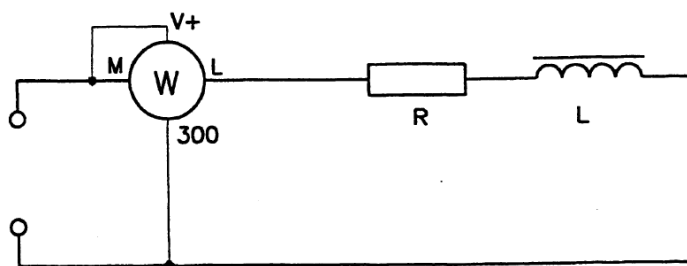

Figure 4 - Measuring power with a wattmeter
16. True power is the power measured on a wattmeter as shown in Figure 4.